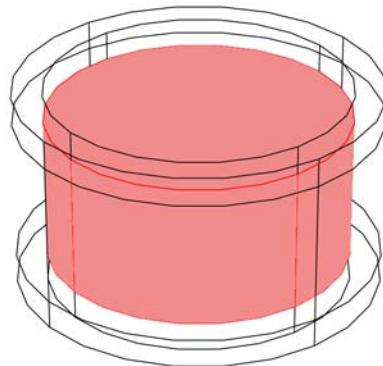

Figure 4-11: A cylinder surrounded by typical cylindrical PML or infinite element domain regions.
- *Cylindrical*—PMLs absorbing in cylindrical coordinate directions from a specified axis. It is available in 3D, 2D, and 2D axisymmetry. In axisymmetry, the cylinder axis is the z -axis (Figure 4-11).